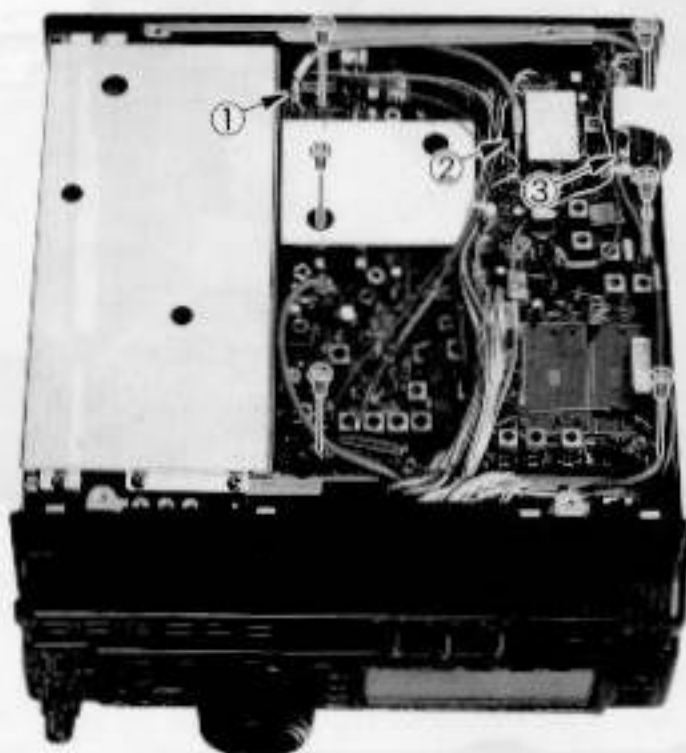

Figure 2: RF Unit Location
- Disconnect the light-blue-banded coaxial cable from J2026 near the rear of the exposed RF Unit (① in Figure 2). If you are not installing any crystal filters, skip the next three steps.
- If installing crystal filters you will need to access the solder side of the RF Unit. Unplug the yellow-banded coaxial cable from J2024 near the rear corner of the RF Unit (② in Figure 2).
- Using a small sharp tool, gently pry up on either side of J2011, the white plastic ribbon cable socket near the rear left corner of the RF Unit (③ in Figure 2), about 2 mm ( $\frac{1}{8}$  inch), until the ribbon cable can be removed (see Figure 3).
- Remove the six screws indicated in Figure 2 (one is inside the large shield housing, accessible through the hole near the corner).
- Replace the six screws removed from the RF Unit (Fig.2), and replace the coaxial cables (① and ② in Fig. 2): the yellow-banded cable goes in J2024, and the light-blue-banded cable goes in J2026.